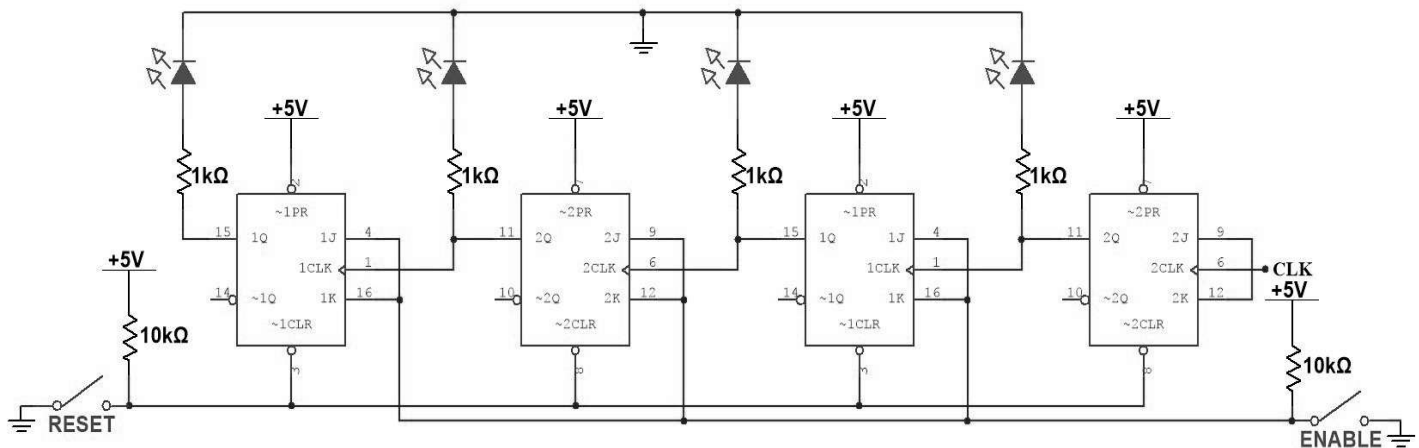

Figure 4.8 Experimental Binary Up Counter
1. Construct the binary counter of figure 4.8!